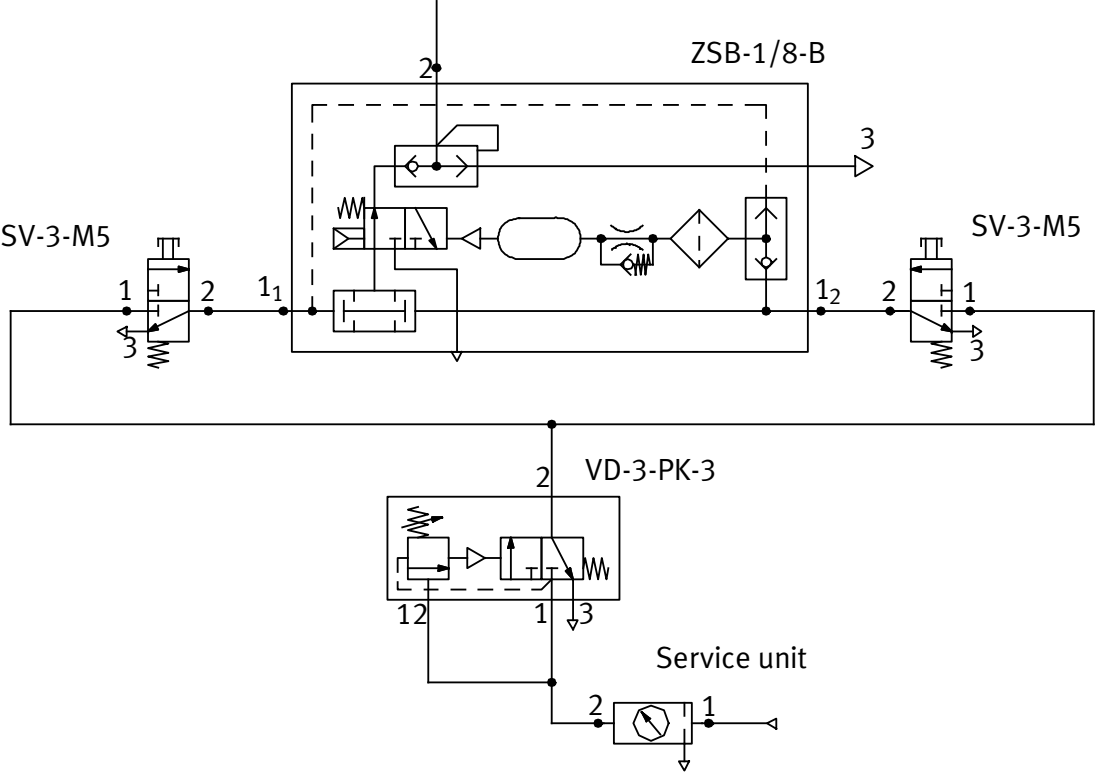

Fig. 2 Example of simple control
- Use a service unit of the MS or D-series from Festo for preparing the compressed air (→ Fig. 2).
- Take suitable measures to ensure the minimum pressure of 4 bar necessary for operation. A pressure sequence valve of type VD-3-PK-3, for example, is suitable here (→ Fig. 2).
3. Install two 3/2-way push-button valves (→ Fig. 2).